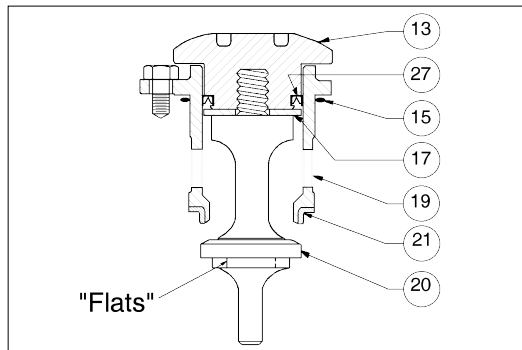

Figure 3: Assembled ITA,
- e. Remove wiper seal (16), if supplied, from within cage (19).
- f. Remove wiper washer (17.1), camber adjusting washer (17.2), or seal retainer (17.3), if supplied, from within cage (19).
- g. Remove o-ring lower stem seal (14.3) from plug (20).
- h. Remove seat ring (21); examine for signs of leakage. If seat ring (21) shows signs of significant leakage, determine if operating conditions of pressure, pressure drop, or temperature are exceeding limits.
2. Units with Metal Diaphragm(s) (See Figure 3):
4. Place properly oriented seat ring (21) onto its shoulder at the lower end of cage (19).
- a. Place new o-ring lower stem seal (14.3) into groove of valve plug (20).
- b. Insert valve plug (20) upwards through lower end of cage (19) and through the center hole in piston-guide bearing (13), also capturing camber adjusting washer (17.2), wiper washer (17.1) and wiper seal (16), if supplied. Hold plug (20) and cage (19) together.
- c. Place an oversized nut or stack of washers, the same approximate height of the upper diaphragm pressure plate (8) and the lower diaphragm pusher plate (10), over the upper end of valve plug (20) and temporarily secure with diaphragm lock nut (7), manually tightened. **DO NOT ALLOW PLUG (20) TO ROTATE AGAINST SEAT RING (21) DURING TIGHTENING.**
- a. Insert valve plug (20) upwards through lower end of cage (19) and through the center hole of camber adjusting washer (17.2) or wiper washer (17.1) and wiper seal (16).
- b. Engage valve plug (20) with piston-guide bearing (13) threads and tighten manually as far as possible.
- c. Place ITA into a vise with leaded jaws and grasp at a hub location on the valve plug (20) that is not in the “spindle” zone. (See Figure 3.)
- d. Using a special double-posted spanner wrench fitting (to order see NOTE in Section IX, Parts Ordering Information), tighten the piston-guide bearing (13) to the valve plug (20) with the following torque values. **DO NOT ALLOW PLUG (20) TO ROTATE AGAINST SEAT RING (21)**